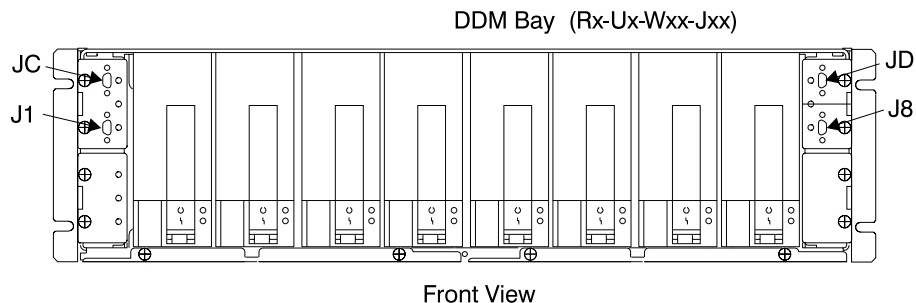

Figure 71. DDM bay SSA Connector Locations (S007693I)
6. Locate the SSA cables displayed on the service terminal as possible FRUs. One of these SSA cables will be connected between two separate DDM bays. The service terminal will identify the drawer and SSA connector that each end of the SSA cable is connected to. To locate a DDM bay, see "Locating a DDM Bay or SSA DASD Model 020 or 040 Drawer in a 2105 Rack" in chapter 7 of the *Enterprise Storage Server Service Guide, Volume 3*. To locate SSA cable connectors on a SSA DASD drawer, see Figure 71.